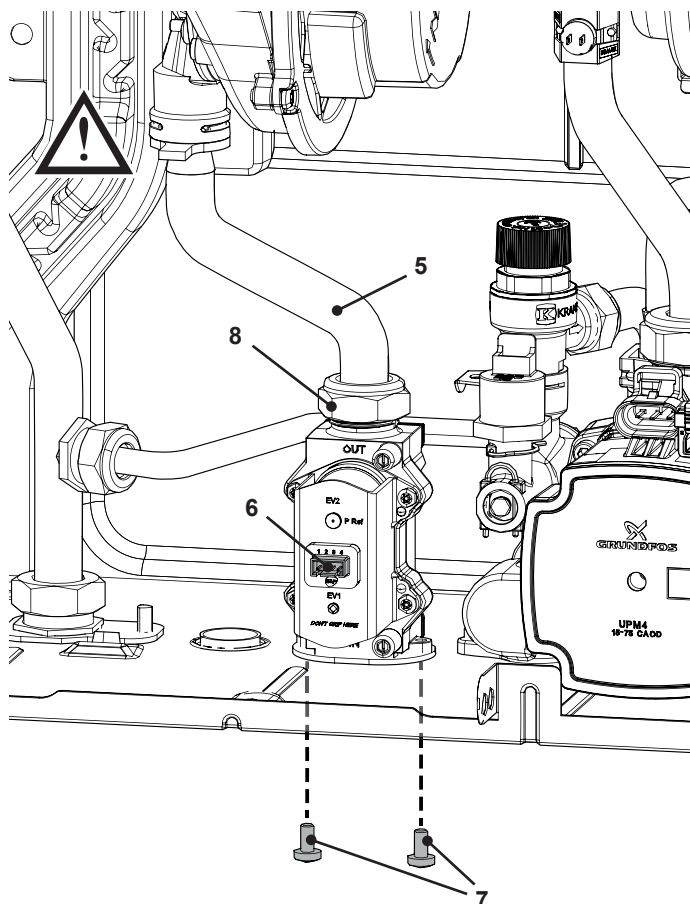

Figure 9.19
- 2 Disconnect the connector "6" (Figure 9.19), see also connector "3" (Figure 9.2).
- 4 Unscrew the connector "8" (Figure 9.19) and remove the pipe "5".
- 5 Unscrew the screws "7" and remove the valve (Figure 9.19).